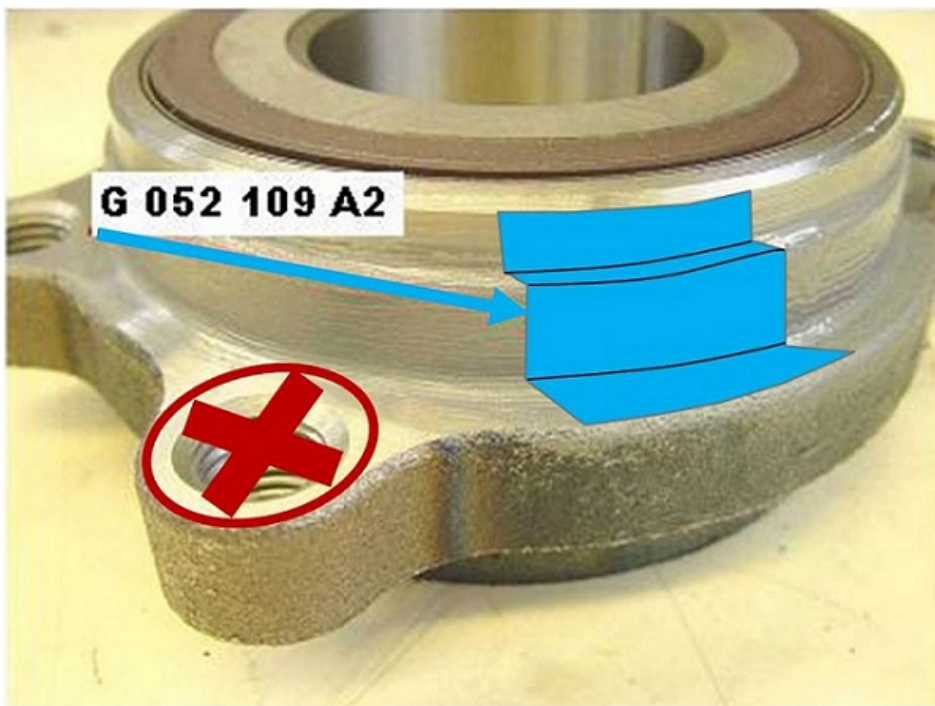

Figure 1. Area to apply paste.
2. Using a brush, apply a thin coat of paste **G 052109A2** on the wheel bearing housing as shown in Figure 1. Make sure not to apply any paste on the threads.